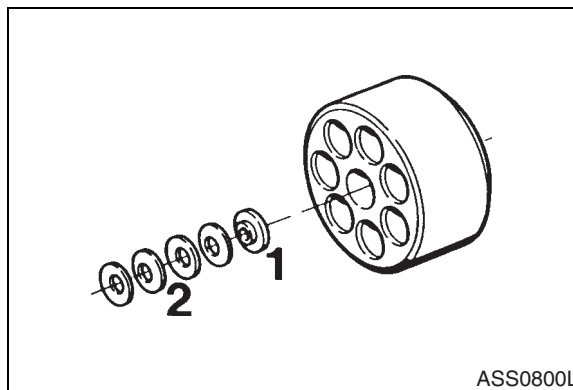

Figure 86
3. Insert spring plate (1, Figure 86) and cup springs (2, Figure 86) into their correct position (and orientation) using grease to hold them into place.